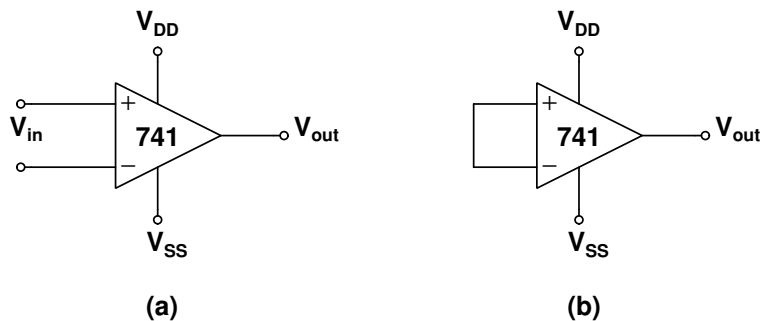
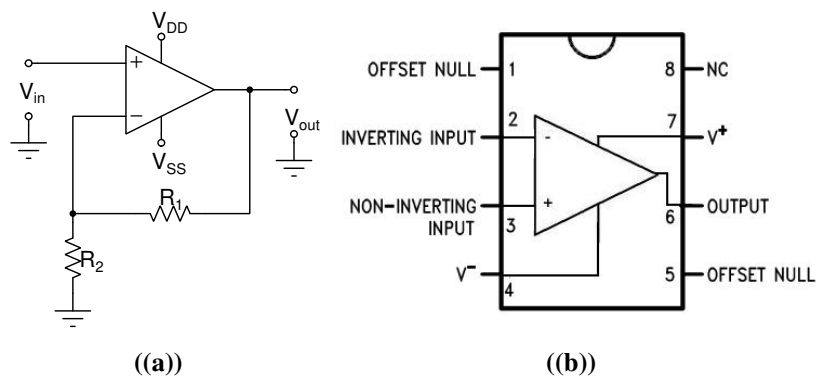

Figure 2: Opamp open loop characteristics (b) offset measurement
Figure 3: a) Schematic of non-inverting amplifier and b) UA741 pin diagram
As depicted in Figure 2(a), an opamp is a differential amplifier, which has two input terminals - non-inverting ($IN+$) and inverting ($IN-$). Opamp can amplify the difference between the two inputs. An ideal opamp has very high (∞) open loop gain, very large (∞) input impedance and small (0) output impedance.
- Realise the circuit given in Figure 2(a), with $V_{in} = 100$ mV peak-to-peak, frequency = 5 kHz, offset 0 V from the function generator, $V_{DD} = 10$ V, $V_{SS} = -10$ V (refer to opamp pin diagram in figure 3(b) for making connections). Probe the input and output nodes and observe the voltage transfer characteristic (VTC) using acquire function in DSO.
Consider the circuit shown in Fig. 3(a). Output is fed back to inverting terminal ($IN-$) at input through a resistor divider. This is called negative feedback. Due to the very high gain of the opamp, **in negative feedback**, voltages at inverting and non-inverting terminal become equal and hence they are considered as virtually shorted (no current flows between $IN+$ and $IN-$ but voltages are same)
- Derive the gain of the non-inverting amplifier shown in Figure 3 (a).
- (b) Realise the circuit given in Figure 3 (a), with $V_{in} = 250$ mV peak-to-peak, frequency = 5 kHz from the function generator, $V_{DD} = 12$ V, $V_{SS} = -12$ V (refer to the pin diagram for making connections). Connect the resistors R_1 and R_2 according to Table 1 and note the gain obtained in each case. Compare the values with the calculated gain.